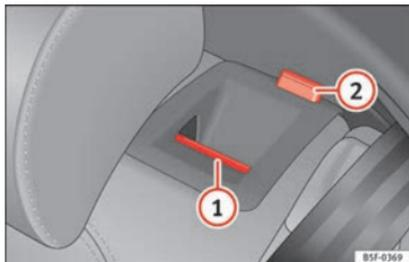

Fig. 111 On the rear seat backrest: release catch (1); red mark (2).
- Push the unlock button » Fig. 111 (1) forwards and at the same time lift the backrest.
- The rear seat backrest is not engaged when the red marking of the button (2) is visible.
The rear seat backrest is not engaged when the red marking of the button » Fig. 111 (2) is visible.